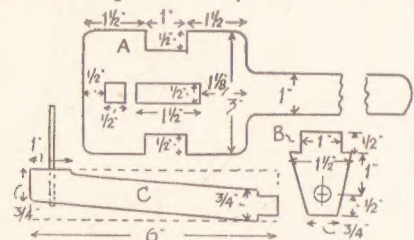

Fig. 1—Details of main parts
Some $\frac{3}{16}$ in. thick deal is suggested for making the body part, to make it strong enough to stand up to plenty of work, as it is likely to get at the hands of a healthy child. Parts of the body are shown, with dimensions, in Fig. 1. The top board (A) should be carefully marked out from a length of wood, long enough to include it and a suitable handle.